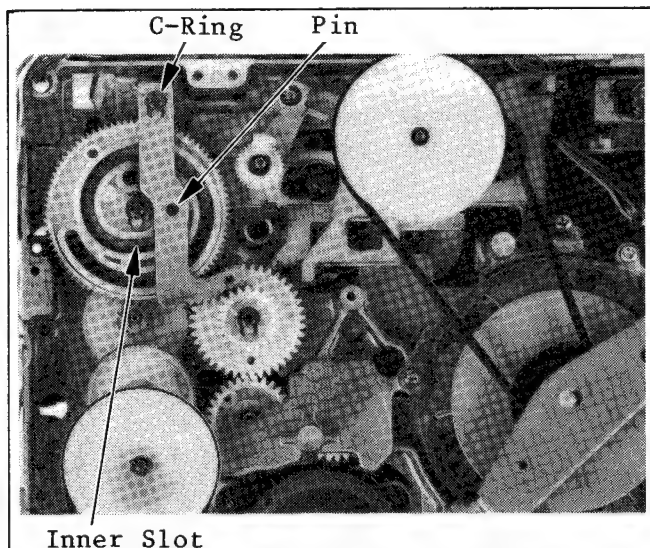

Fig. M49 Adj. Procedure-(4)
5. Install the sector gear so that the pin on the sector gear meets the inner slot of the cam gear as shown in Fig. M49. Also install C-Ring in order to mount sector gear.